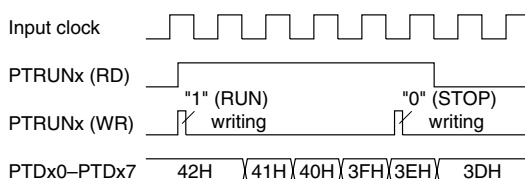

Fig. 5.2.1 Timing chart for RUN/STOP control
- (2) The programmable timer actually enters RUN/STOP status in synchronization with the falling edge of the input clock after writing to the PTRUNx register. Consequently, when "0" is written to the PTRUNx register, the timer enters STOP status at the point where the counter is decremented (-1). The PTRUNx register maintains "1" for reading until the timer actually stops. Figure 5.2.1 shows the timing chart for the RUN/STOP control.